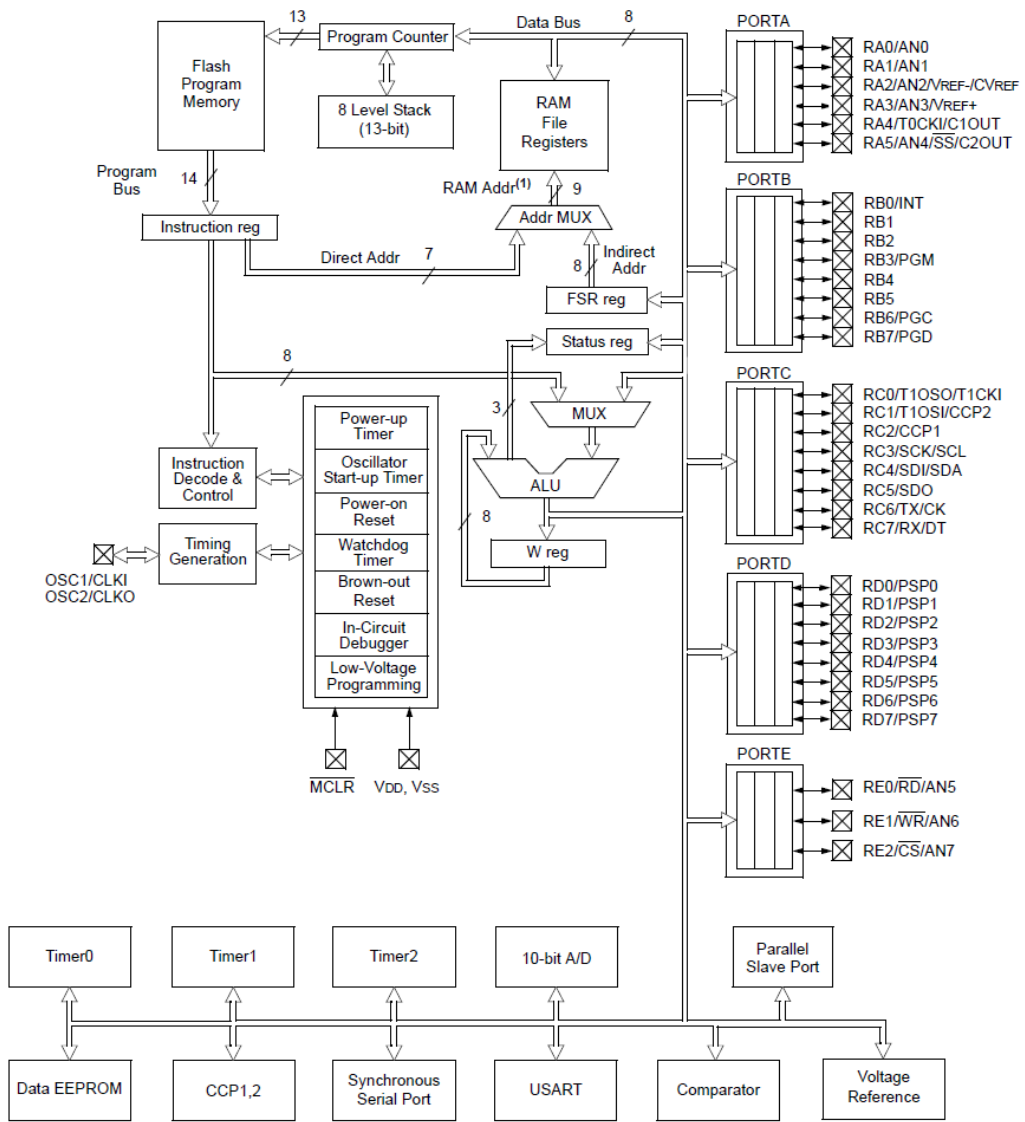

Fig. 62
In a gym and fitness centre, there are some shower stalls like the one represented in Fig. 62 that have to be automated to generate cycles of contrasting hot (48 °C), warm (26°C) and cold (4°C) water sprays simply clicking a single start push button (SB). After clicking the SB, initially warm water flows for 50 s ($H = C = '1'$), then hot water ($H = '1', C = '0'$) for 10 s, and thirdly cold water ($H = '0', C = '1'$) for 20 s, and this cycle is repeated another time; finally, the system goes idle ($H = C = '0'$) to wait for another user service. During the operation the R_LED turns on and the water solenoid valve (SV) is on. Let us design the digital control system connected to the valves' power driver (Chip5) using two technologies: a CPLD/FPGA and a microcontroller.
The architecture of the PIC16F87xA family is presented in Fig. 62.